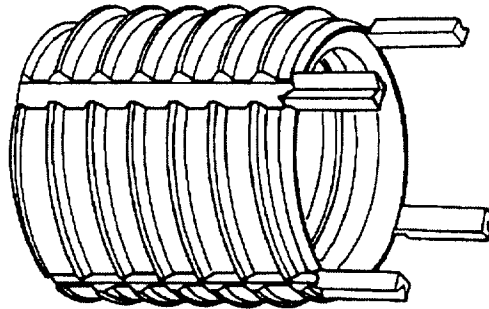

Figure 075-2-14 Key Locked Insert (Typical)
**075-2.8.11 KEY-LOCKED INSERTS.** The key-locked insert (Figure 075-2-14, typical) is another type of thin wall insert, which complies with MS 51830 and MS 51831. Steps for hole preparation and installation are generally the same as other inserts, but the tools and dimensions are unique, particularly as applicable to the external thread-locking feature. Briefly, drill the hole to the manufacturer's dimensions, screw in the insert with a special tool, and tap the locking keys in place using the reverse side of the installation tool and a hammer. Removal is also generally typical of other thin wall inserts, except for the locking area. Drill out the damaged insert to proper drill size and depth per manufacturer's details. Then deflect locking keys inward and break off. Unscrew insert with a standard extractor type tool and replace with same size insert in the original hole. As with other inserts, if external thread or parent thread damages have somehow occurred, and assuming space is available, the use of the next larger size insert will result in the need for a larger bolt. It is preferable to retain the same size insert and original bolt size when repairs are made. If use of the next larger size insert is required, contact NAVSEA to determine whether other type inserts can be used to retain the original bolt size.